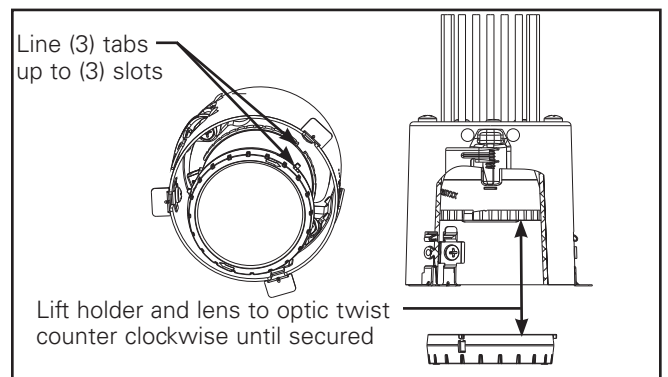

Figure 7
7. If a soft focus lens is desired, use accessory kit supplied. See figure 7 for installation.